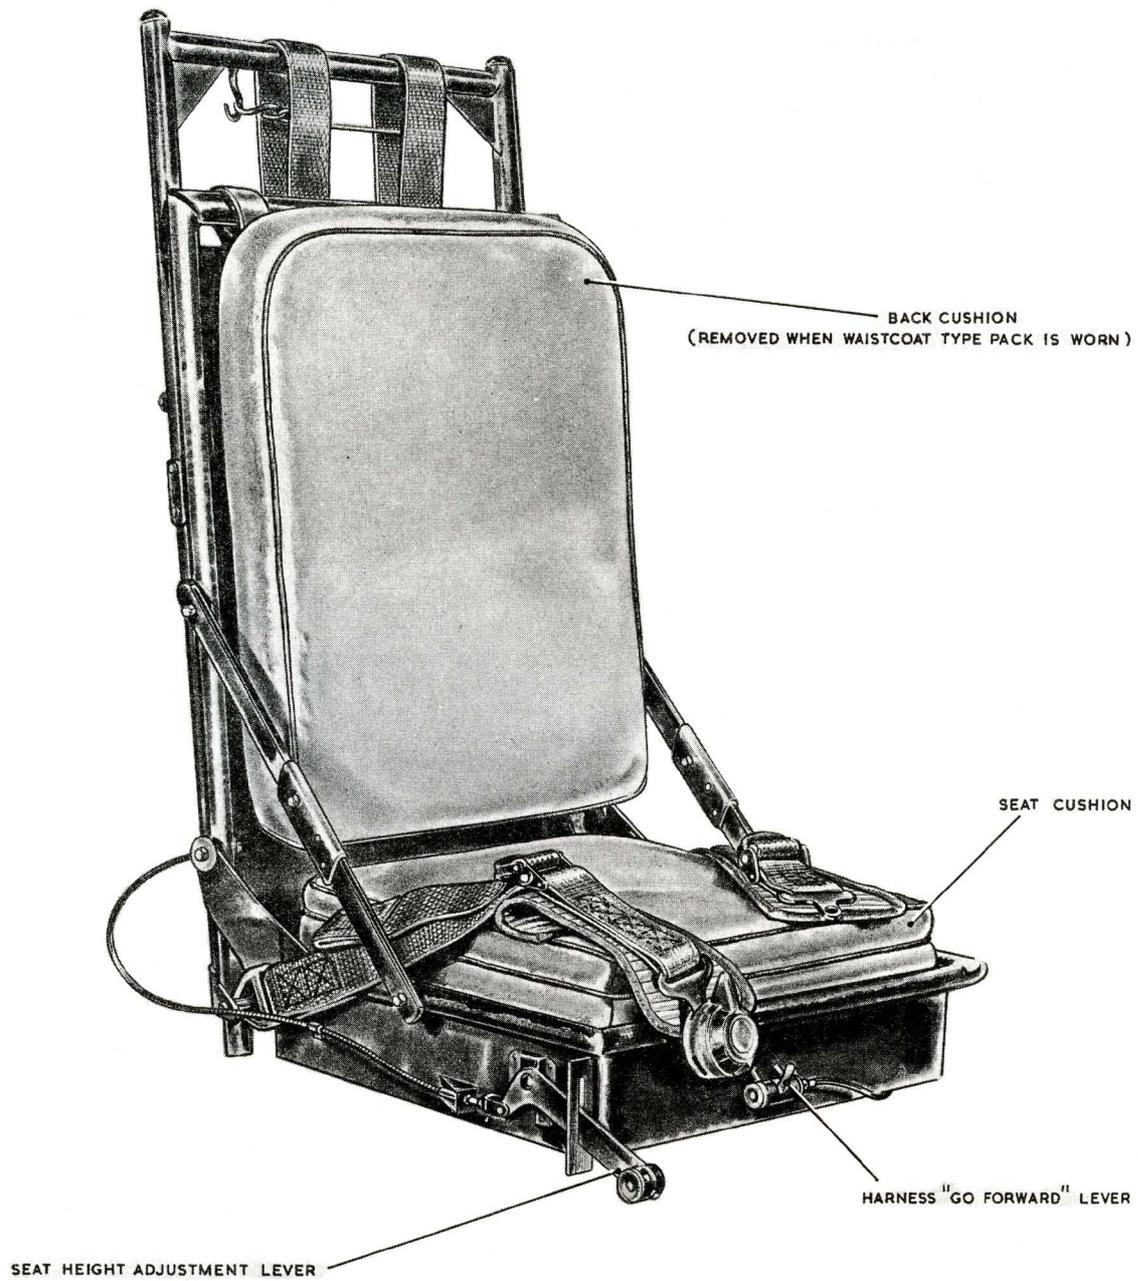

Fig. 1. The seat equipped
4. The following procedure is to be used; refer to fig. 1:—